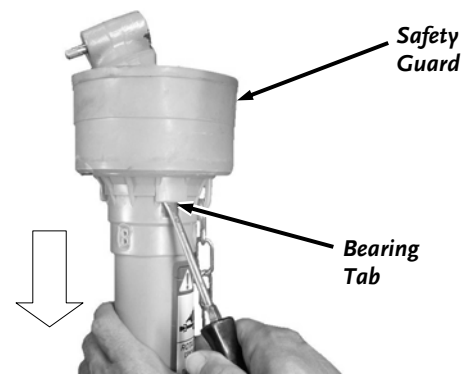

Figure 17
2. Separate the Guards from the PTO Shaft Halves by inserting a flat tip screwdriver into the Bearing Tab Slots as you pull down on the Safety Guard to release the Safety Guard from the Shaft (**Figure 17**).